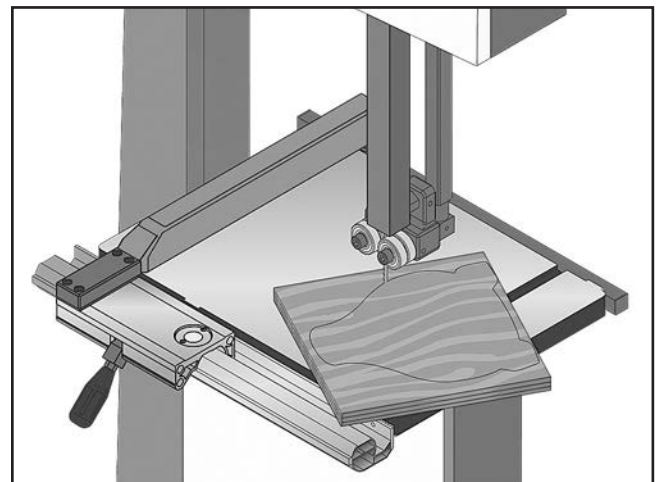

Figure 56. Typical stacked cut.
5. Cut the stack of pieces as though you were cutting a single piece. Follow your layout line with the blade kerf on the waste side of your line (see Figure 56).